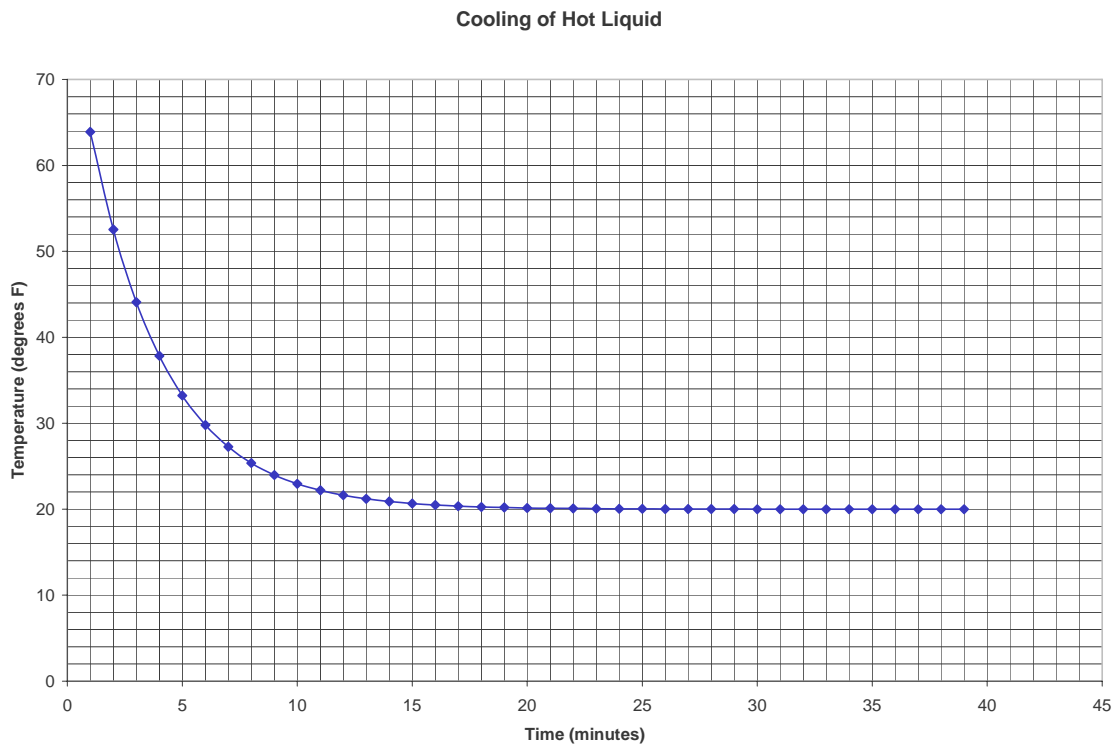

Figure 2 Temperature of the Liquid in the Cup with Insulating Value of 0.3
The next step is to change cups. In the calculation approach you've been using its easy. Simply change the value of alpha "; in the real world, you need to go to the cupboard and select a new one. Replacing the highly insulated cup with a more heat conductive cup, you can do the same type of calculation for the new cup even though it may not have been manufactured yet. Figure 2 is the analytic solution for the cup with an insulating value of 0.3.
**Activity 5** - Repeat the calculations for a cup with an insulating value of 0.3 and graph the values on Figure 2. By now you the procedure should be easy. Table 4 is for filling in the blanks for the one minute time step.
I've included Table 5 to assist you when repeating the calculation with a time step of 5 minutes. **Plot** the values of cup temperature on Figure 2.
**Plot** the values of cup temperature on Figure 2.